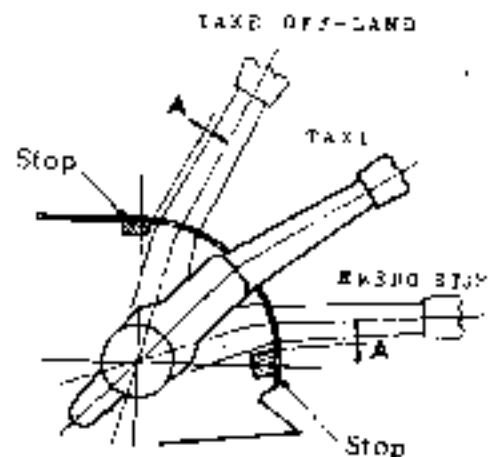
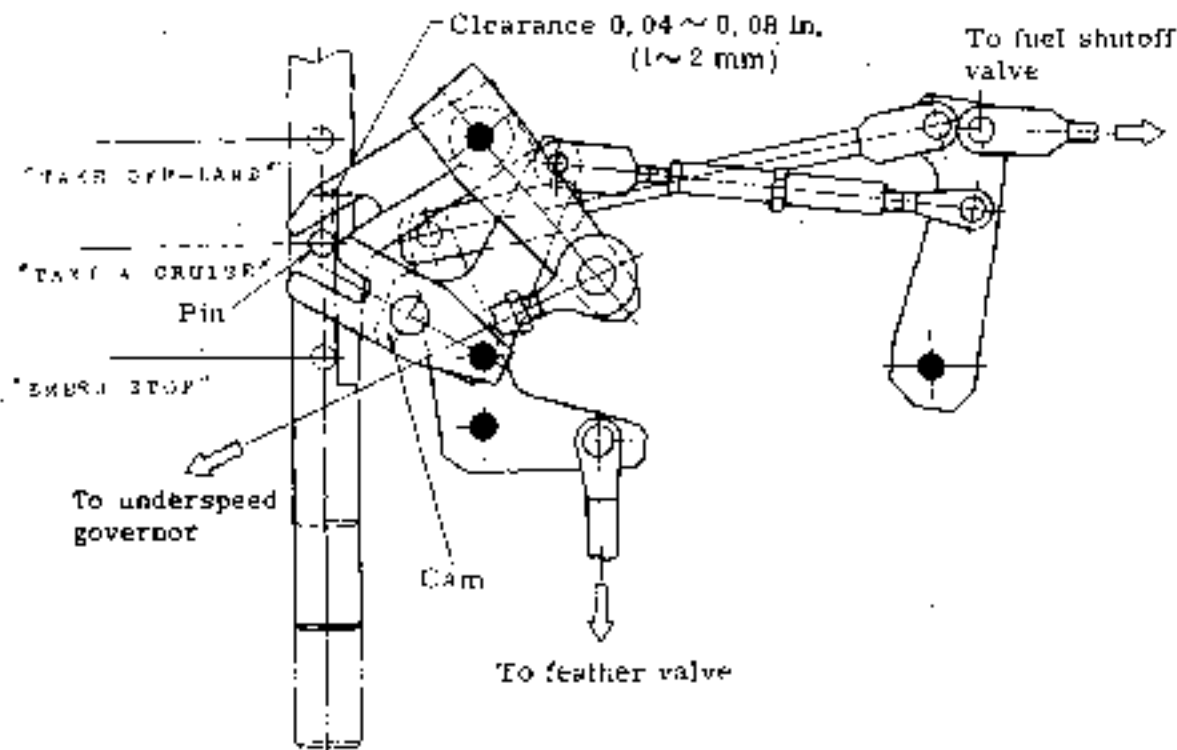

Fig. 6-43 Condition lever
Fig. 6-44 Mechanism of pin and bellcrank
- (2) Relation between cylinder ass'y ② and cam must be in the condition shown in Fig 6-44, mechanism of pin and bellcrank.
- (3) Pull out rig pin.
- (4) Adjust the stop so that clearance of lever is 0.16 to 0.24 in. (4.1 to 6.1 mm) when condition lever is moved to TAKEOFF-LAND position. (See Fig. 6-43)